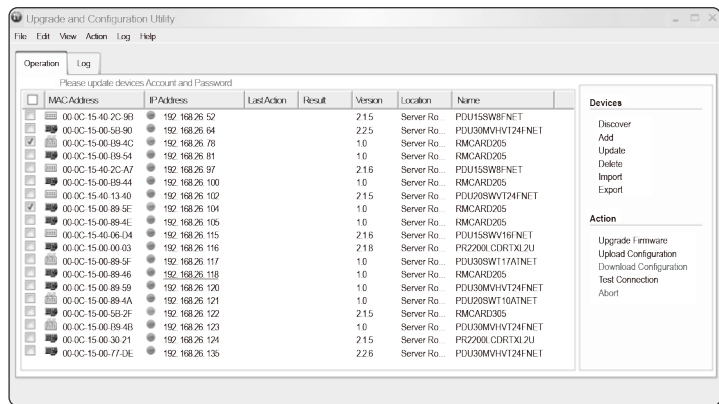

Figure 5. The main window of the “Upgrade and Configuration Utility” program
3. The main window of the Upgrade and Configuration Utility tool program is shown in Figure 5. The configuration tool will display all CyberPower Remote Management devices present on the local network subnet. The “Discover” button is used to search the local network subnet again.